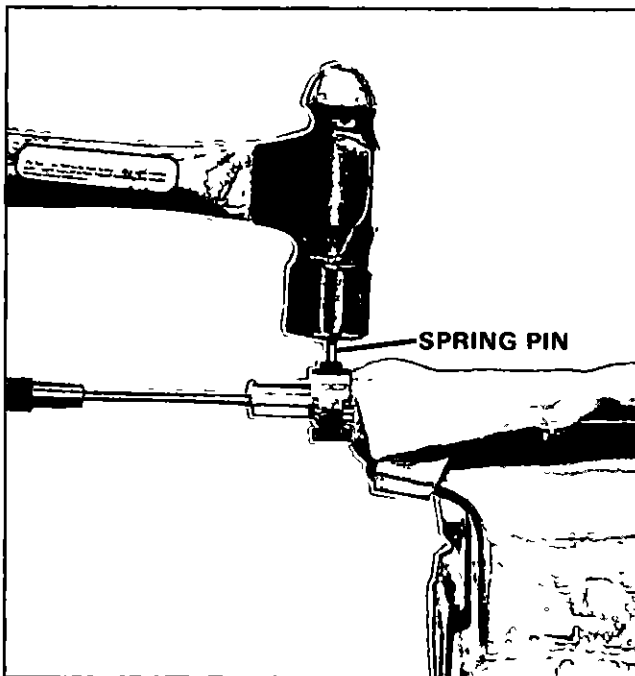

Figure 34 Installing Clutch.
- D Compress clutch spring. Center clutch on splined part of shaft. Figure 34
- E Remove pin remover. Drive spring pin in until flush. Figure 34